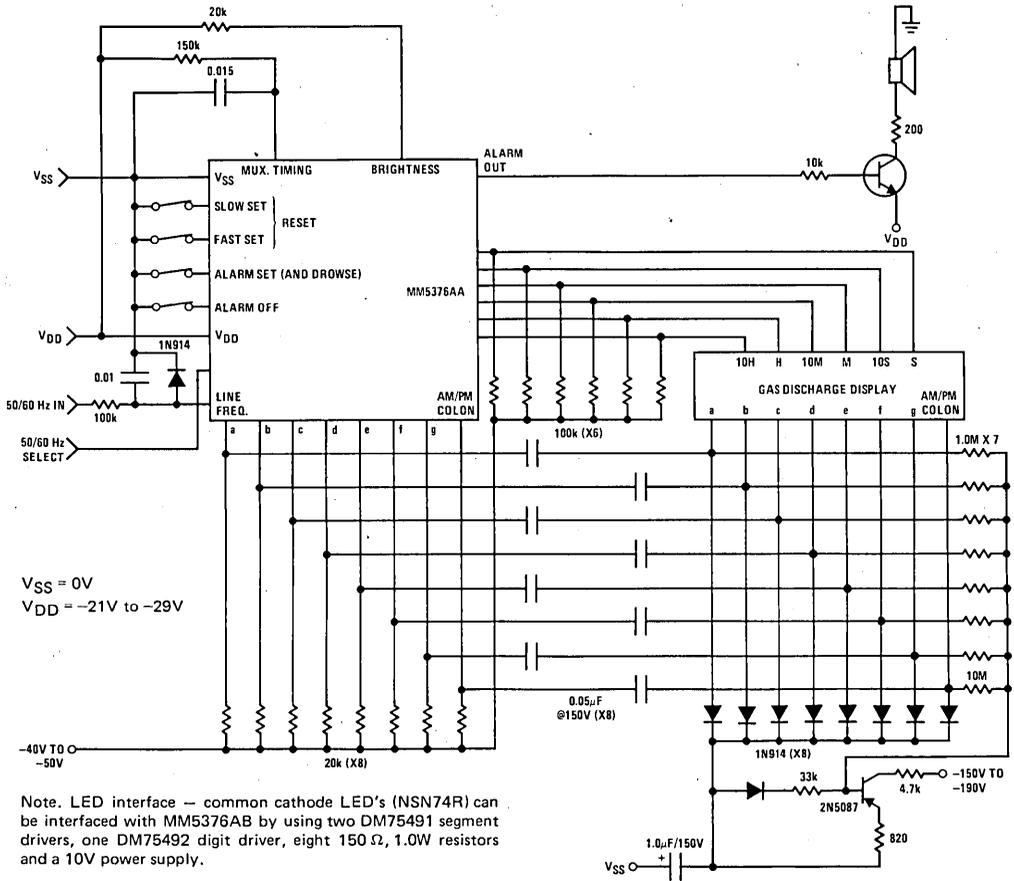

FIGURE 3. Typical Application
**Brightness Control (Pin 24):** In LED applications, brightness of the display may be varied by use of an external time constant. This time constant is used in the integrated circuit to control the pulse width or duty cycle of the 6-digit enable outputs (Figure 2). In gas discharge applications, connect as shown in Figure 3.